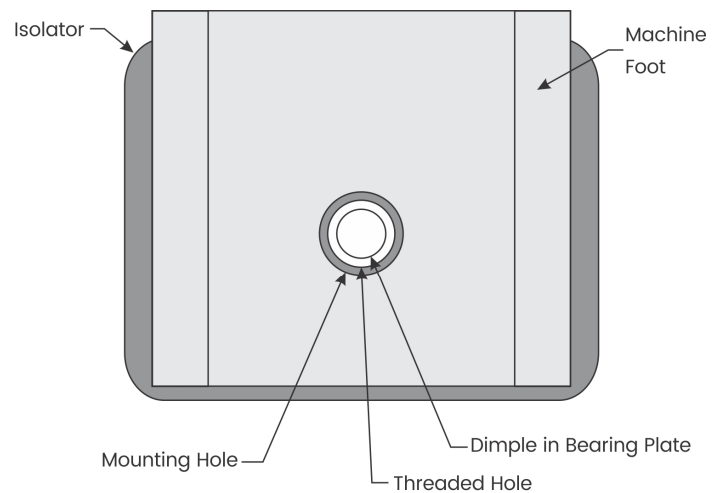

Figure 2
1. After lowering the machine foot onto the isolator, look through the machine’s mounting hole to see if the mounting hole, the threaded hole in the isolator and the dimple in the bearing plate are all concentric as per *Figure 2*. A flashlight and mirror may be required.